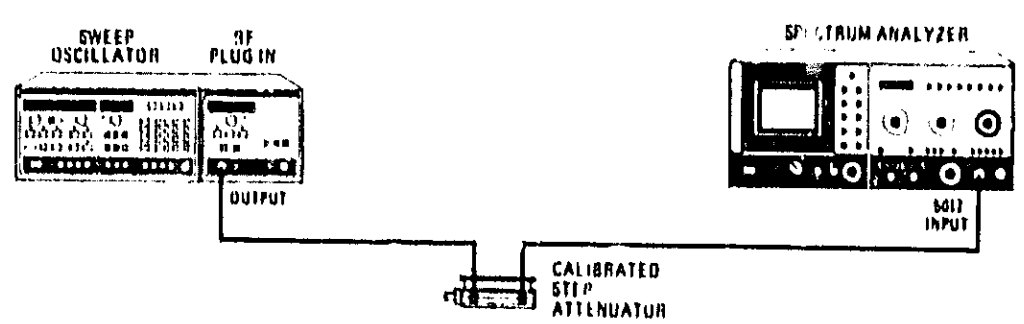

Figure 4-17. Attenuator Accuracy Test Setup
1. Connect equipment as shown in Figure 4-17. Press 8350A INSTR PRESET , CW 4 GHz . Set the 83590A POWER LEVEL to +4 dBm.